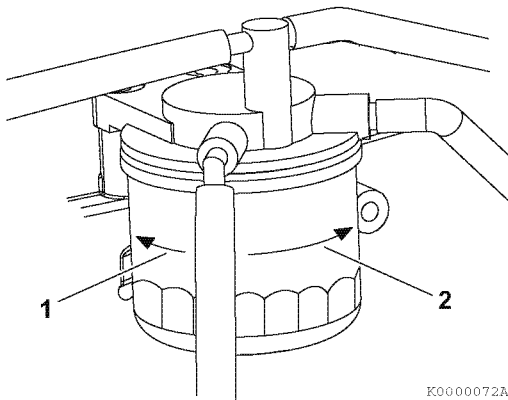

Figure 5-11
3. Remove the fuel filter with a filter wrench, turning it to the left (1, **Figure 5-11**). When removing the fuel filter, carefully hold it to prevent the fuel from spilling. Wipe up all spilled fuel.
5. Install the new fuel filter. Turn to the right (2, **Figure 5-11**) and hand-tighten it only until it comes in contact with the mounting surface. Tighten to 14 - 17 ft·lb (19.6 - 23.5 N·m; 2.0 - 2.4 kgf·m) or one additional turn using the filter wrench.